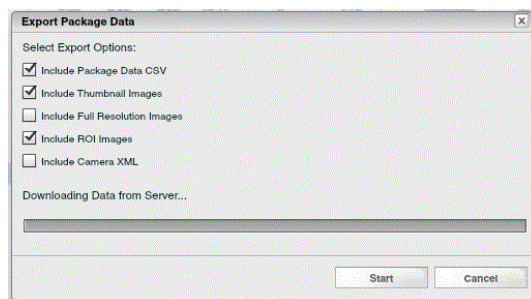

Figure 7-8: Export Package Data
1. In the results pane, click the export icon  (Refer to Figure 7-8). The **Export Package Data** dialog opens.